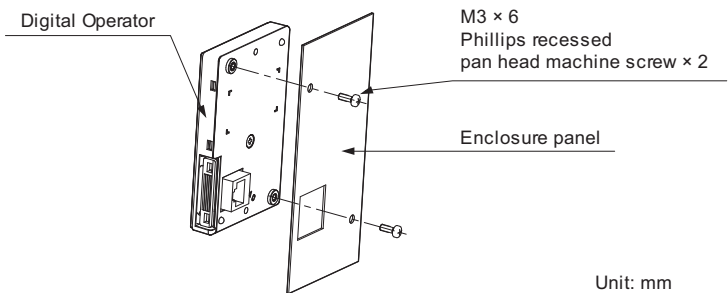

Figure 2.11 External/Face-Mount Installation
- 2. Position the digital operator so the display faces outwards, and mount it to the enclosure panel as shown in Figure 2.11.